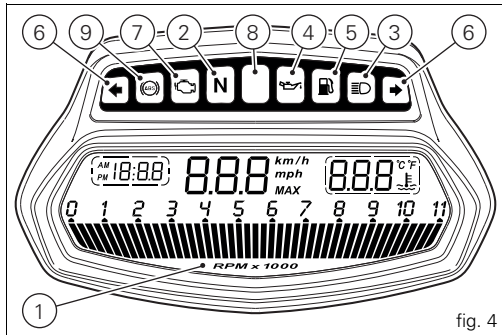

fig. 4
- 8) Limiter light "Over rev"/traction control light "DTC" (RED) (fig. 4):
- 9) ABS LIGHTS  (AMBER YELLOW) (fig. 4). This turns on to indicate that ABS is disabled or not functioning.
In the event of a sensor "error", a string of flashing dashes ("---") is shown and the "Engine/vehicle diagnosis - EOBd" light (7, fig. 4) comes on.